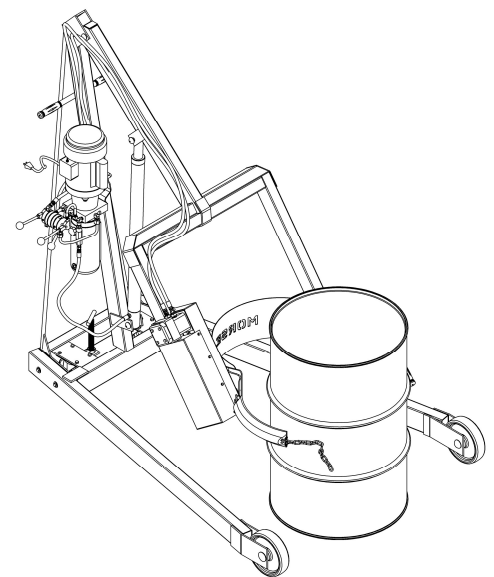

Figure 3.1
The screw-down floor lock is located on the base of the tower (figure 3.1). Turning the floor lock clockwise until it locks in the down position activates the floor lock. When the floor lock is activated it prevents unwanted free wheeling of the unit. Floor conditions determine the effectiveness of the floor lock. The operator should verify its holding action before depending on it to hold.
2. Using the "LIFT" control as described in "Machine Description - Controls" position the drum holder assembly with the back band at the middle of the drum. (Figure 3.1). With the ratchet plate swung open and the cinch chain hanging from the chain hook, push the unit until the back band rests firmly against the drum. Some adjustment to the tilt angle of the saddle may be necessary to ensure band fits flush on the drum.